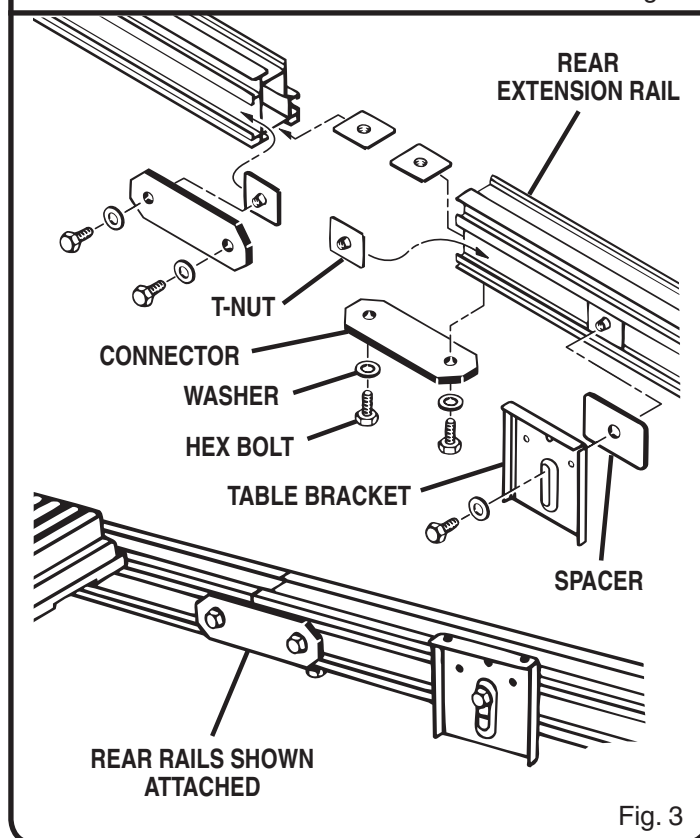

Fig. 3
See Figures 3 and 5.
The rear extension rail attaches to rear rail on your BT3000 table saw by repeating the above procedure for attaching front extension rail. The only difference being the rear rail has a different configuration. See Figure 3.
- Slide two T-nuts into channel on front portion of rear extension rail. See Figures 3 and 5.